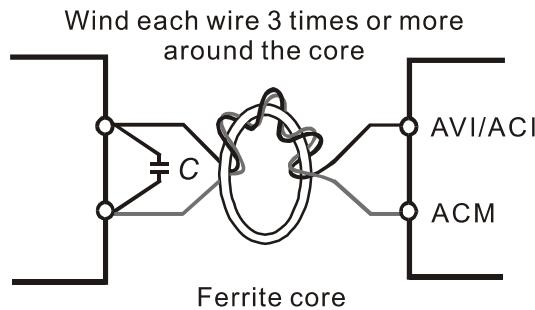

Figure 6-1
- If the analog input signals are affected by noise from the AC motor drive, connect a capacitor and a ferrite core as shown in Figure 6-1.